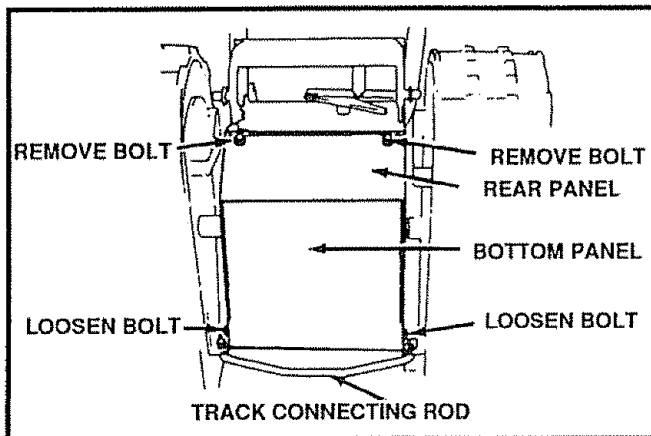

FIG. 35
- Stand the snow thrower up on the auger housing end (See Fig. 35).
- Remove the rear and bottom panels (See Fig. 35).